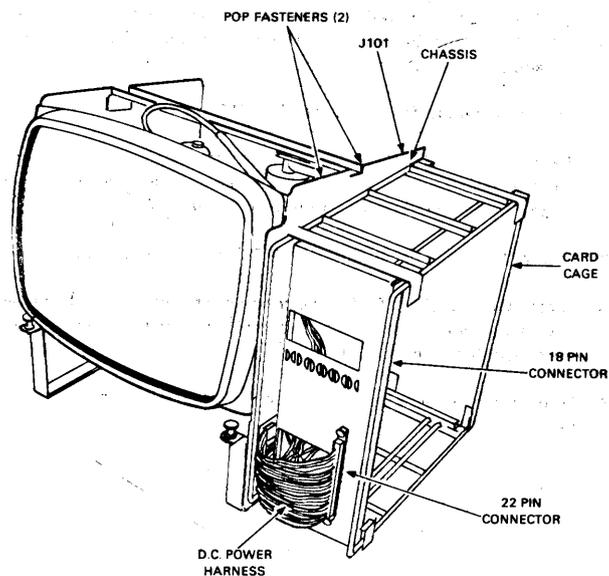

Figure 5-10 DC Power Harness Removal
3. Disconnect 10-pin edge connector J101 from the video monitor board (Figure 5-10).
1. Remove the card cage by releasing the two pop fasteners holding the top of the card cage to the chassis. Tilt the cage top out slightly and then lift the card cage out of the bottom holding clips (Figure 5-10).